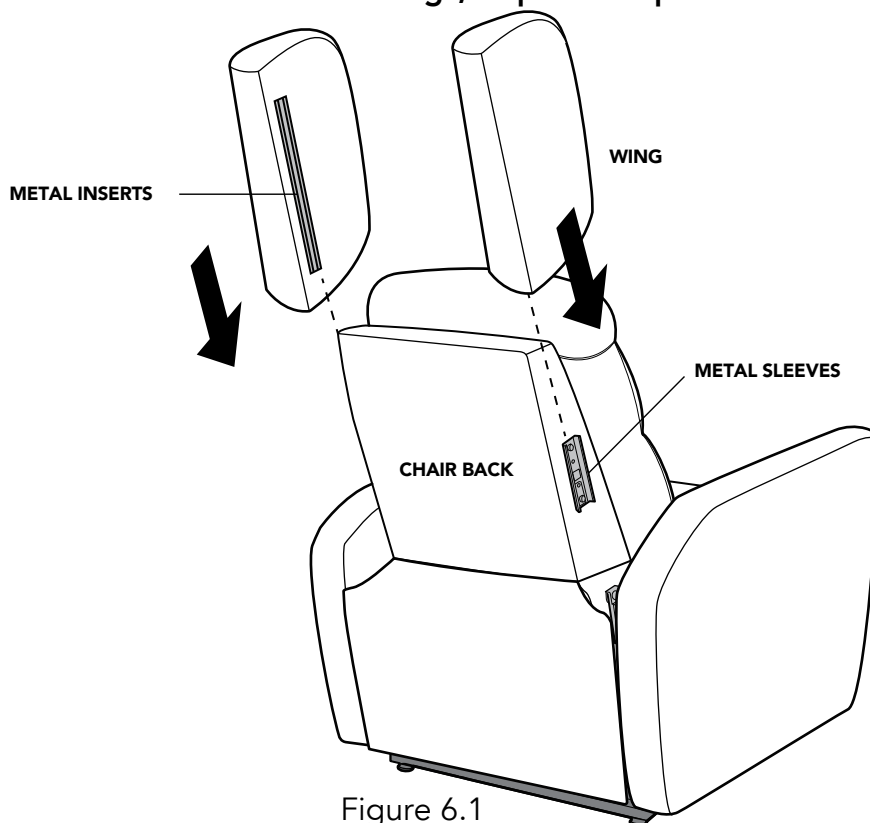

Figure 6.1
- 6** Slide the metal inserts on the chair's wings into the metal sleeves on the side of the chair back. Slide the wings down until they are completely set on the backs metal sleeves. (See Figure 6.1)